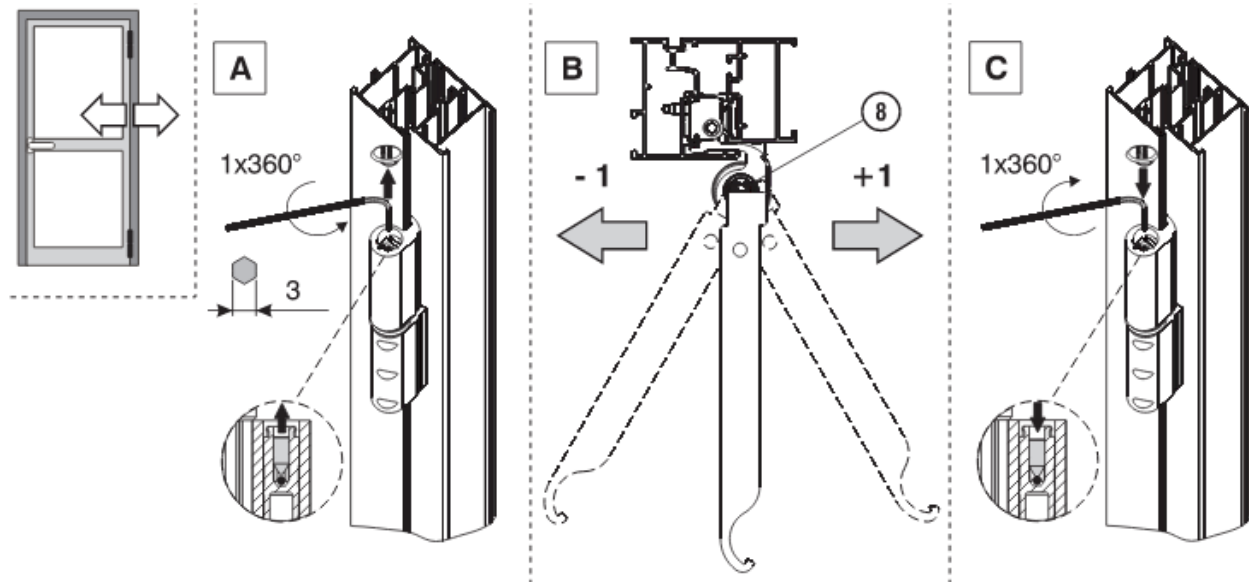

Figure 39
- Using a large flat screw driver or Giesse Adjustment Key adjust the door leaf laterally as shown in Figure 39 and re-tighten the set screw. There should be an even 9/16" gap around the perimeter of the door leaf at the head and jambs.